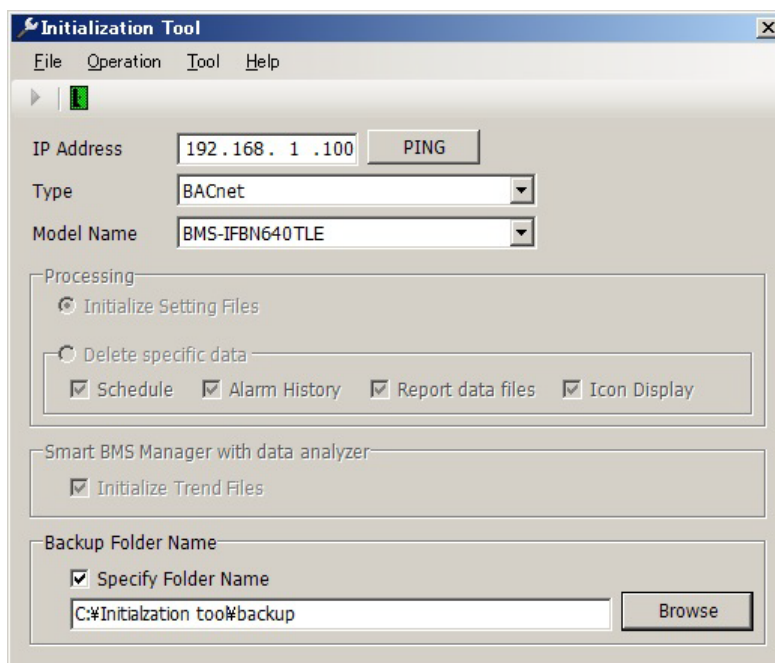

Fig.452 [Initialization Tool] screen
- 3 Specify a backup folder. (Fig.452)**